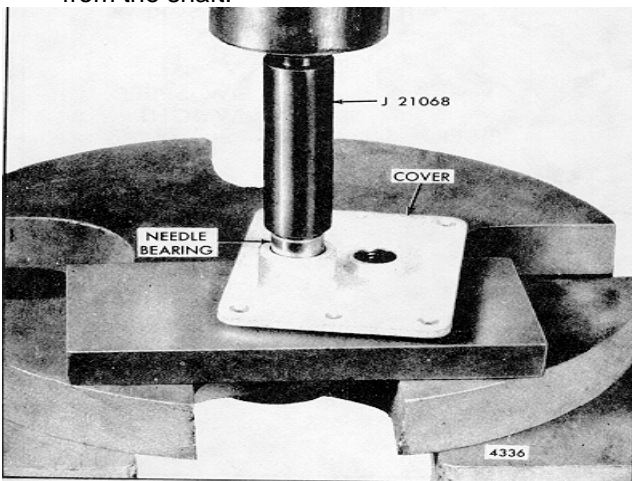

Fig. 6 - Installing Needle Bearings in Governor Cover
7. Support operating shaft and lever on bed of press (Fig. 6 in Section 2.7.1). Press the shaft from the operating lever and bearing with a brass rod.
the number on the bearing up. Insert bearing installer J 21068 in the bearing and press the bearing in until the shoulder on the tool contacts the cover (Fig. 6).